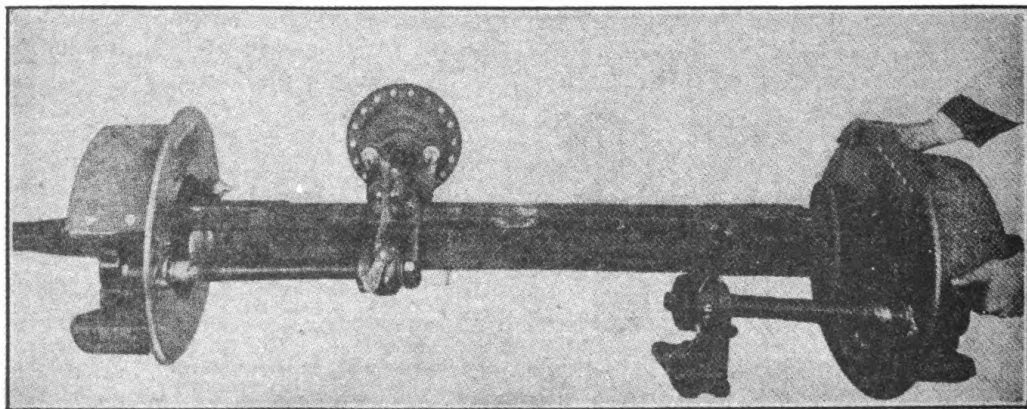

FIGURE 11. REMOVING BRAKE ASSEMBLY IN ONE UNIT
j. Mark an "L" on the left-hand brake assembly and an "R" on the right-hand assembly for identification when reassembling. Remove the brake assemblies by taking out the eight bolts holding brake adapter mounting plate to axle flange on both sides (Figure 11). Lift the complete assembly off axle.